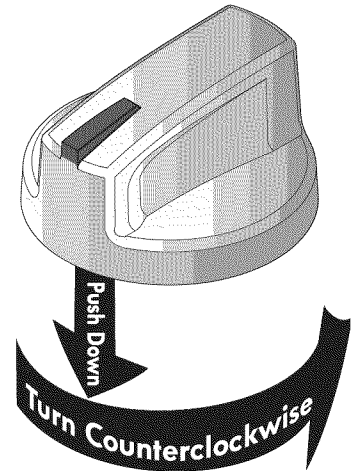

Figure 2
2. Push the surface control knob in and turn **counterclockwise** out of the OFF position (See Figures 2 & 3).